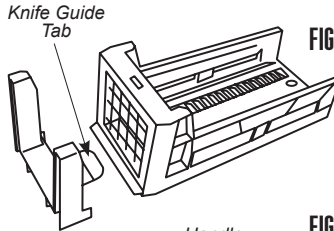

FIGURE 3
3. With the Pusher Tabs pointing upward, and the Pusher Nubs facing outward, place the Pusher flat onto the face of the Ratchet Handle and slide upward into place. The slots on the Pusher will align with the slots on the Ratchet Handle. The Pusher will click into place (**FIGURE 3**).